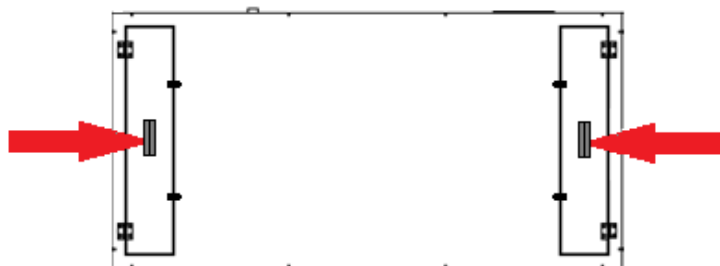

Fig. 12a
- for horizontal unit, by lower hinged doors provided with recessed handles and kept closed by blocking devices (by these doors maintenance is both for filter and fan; **fig. 12a**)